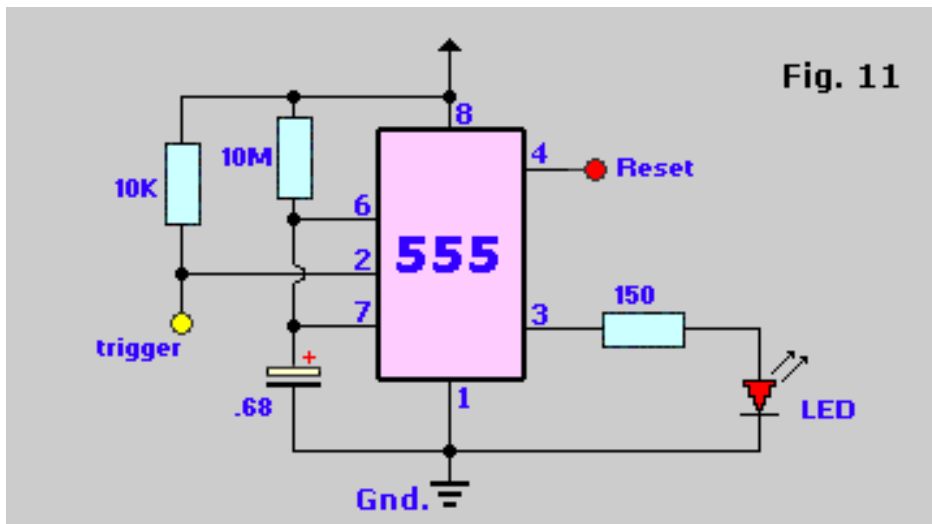

Fig. 11
as shown in figure 11.
6. Using the values of external resistor and capacitor values in Fig. 11 and